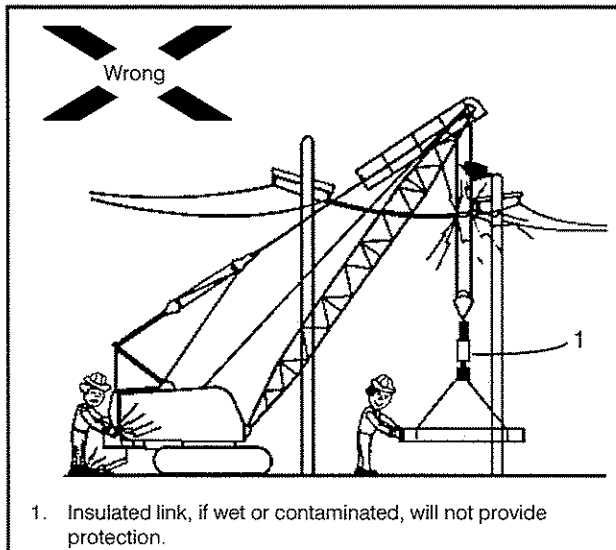

Figure 1-24
- h. The use of boom point guards, proximity devices, insulated hooks, or swing limit stops do not assure safety. Even if codes or regulations require the use of such devices, you must follow rules listed here. If you do not follow them, the result could be serious injury or death. Figure 1-21 through Figure 1-24 portray some of the limitations of the devices.